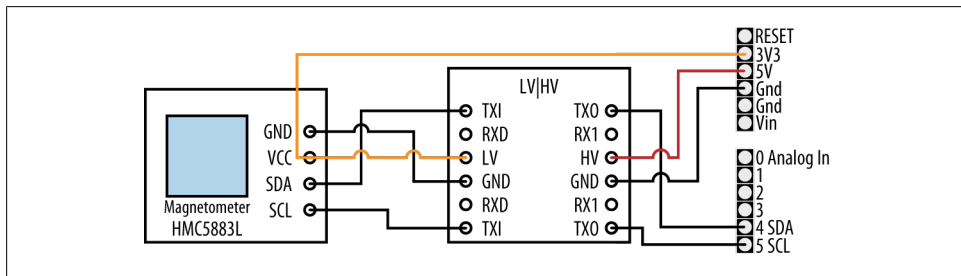

Figure 13-2. Using a 3.3V device with a logic-level translator
Many I2C devices are intended for 3.3 volt operation and can be damaged when connected to a 5 volt Arduino board. You can use a logic-level translator such as the BOB-08745 breakout board from SparkFun to enable connection by converting the voltage levels (see Figure 13-2). The level translator board has a low-voltage (LV) side for 3.3 volts and a high-voltage (HV) side for 5 volts.